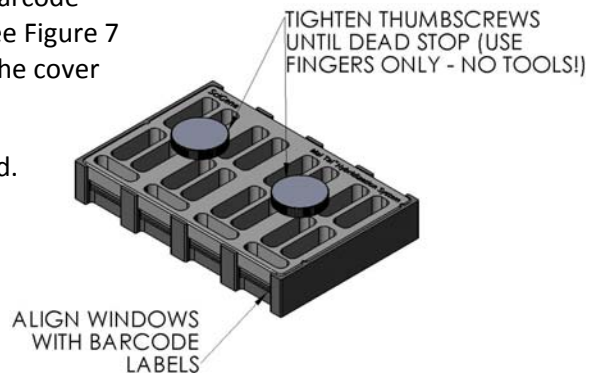

FIGURE 7
6. Place the cover plate over the arrays with the barcode window matching the barcodes on the array. See Figure 7 showing correct placement and orientation of the cover plate.